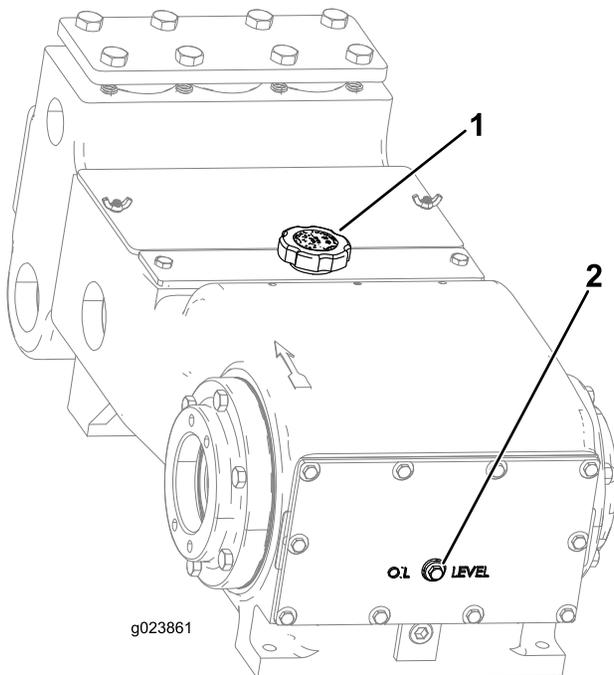
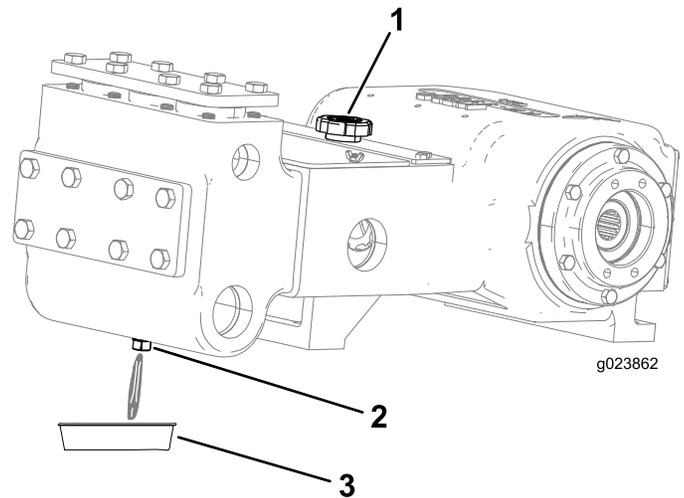

Figure 121
Figure 122
2. Remove the oil-level plug on the crankcase (Figure 121).
3. Ensure that the oil is at the oil-fill line as shown in Figure 121.
4. Remove the drain plug and place a drain pan under the drain-plug hole (Figure 122).
6. Allow all of the oil to drain from drain plug into the oil pan (Figure 122).
8. Remove the oil-filler cap (Figure 122) and add approximately 1.8 L (4 US qt) of oil, or until the oil reaches the level of the oil-level plug as shown in Figure 121.